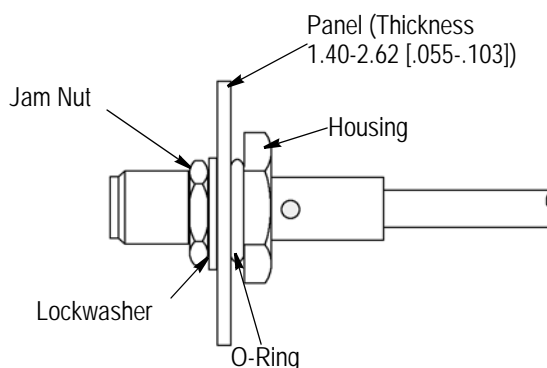

Figure 5
8. Cut the panel using the dimensions shown in Figure 5.
9. Install the O-ring onto the front of the housing. Insert the housing through the panel cutout until the O-ring is flat against the panel. Install the lockwasher and jam nut onto the front of the jack. Tighten the jam nut. Refer to Figure 5.